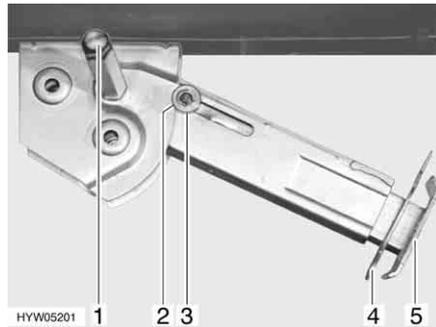

Fig. 23 Steady leg
- Place the socket spanner on the hexagon nut (Fig. 23,1) and rotate until the steady leg is in a perpendicular downward position.
- Remove the splint (Fig. 23,4) out of the support foot extension (Fig. 23,5).
- Place the socket spanner on the hexagon nut (Fig. 23,1) and rotate until the steady leg is clear of the ground.
- Push in the support foot extension (Fig. 23,5) and insert the splint (Fig. 23,4) in the drilled hole in the support foot extension.
- Rotate the hexagonal nut (Fig. 23,1) with the socket spanner until the steady leg has swung upwards and the guide disc (Fig. 23,3) has completely retracted into the notch (Fig. 23,2).